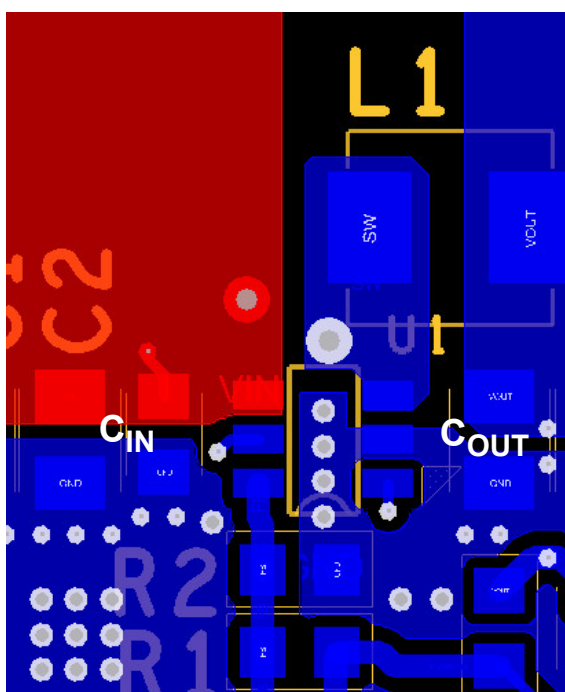

Figure 37. Printed Circuit Board Example Component Placement
Proper layout of the power converter minimizes EMI and noise and ensures first pass success of the design. PCB layouts are provided in multiple formats on the Renesas website. In addition, Figure 37 makes clear the important points in the PCB layout. In reality, the PCB layout of the RAA808013 is quite simple.
- A multi-layer printed circuit board with a GND plane is recommended. Figure 37 shows the connections of the critical components in the converter. *Note:* Capacitors  $C_{IN}$  and  $C_{OUT}$  could each represent multiple physical capacitors. The most critical connections are to tie the PGND pin to the package GND pad. This connection of the GND pad to the system plane ensures a low-impedance path for all return current, and an excellent thermal path to dissipate heat. With this connection made, place the high frequency MLCC input capacitor near the VIN pin and use vias directly at the capacitor pad to tie the capacitor to the system GND plane.
A component placement example is shown in Figure 37.